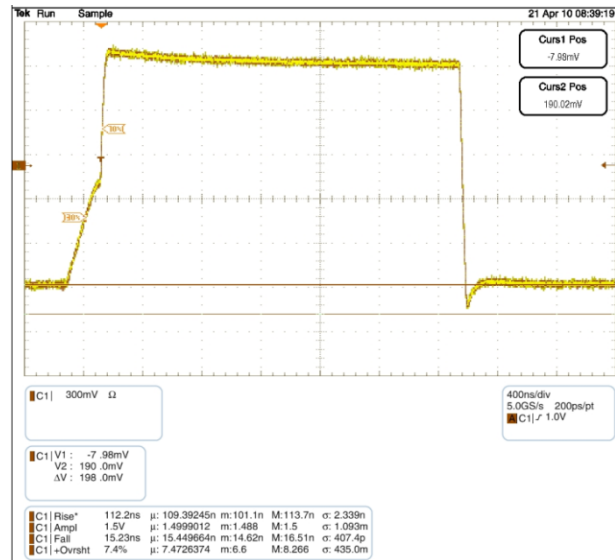

Figure 5. Waveform C: 600 pF, Total R_{PU} : 2.2 k Ω
the Npassgates act as a low-resistive short between both ports until either of the port's $V_{CC}/2$ thresholds are reached. After the RC time constant has reached the $V_{CC}/2$ threshold of either port, the port's edge detector triggers both dynamic drivers to drive their respective ports in the LOW-to-HIGH (LH) direction, accelerating the rising edge. The resulting rise time resembles the scope shot in Figure 5. Effectively, two distinct slew rates appear in rise time. The first slew rate (slower) is the RC time constant of the bus. The second slew rate (much faster) is the dynamic driver accelerating the edge.